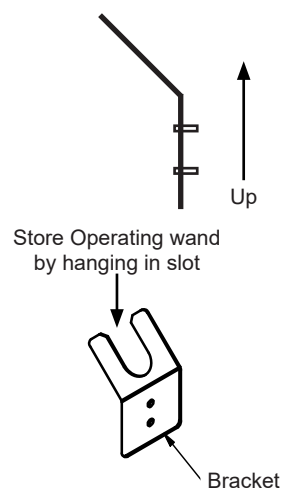

Figure 17
- Mount PowerStop operating wand bracket (Figure 17) on the interior wall near the vehicle restraint (or as close to the control box as possible, if equipped). Mounting hardware supplied by others.